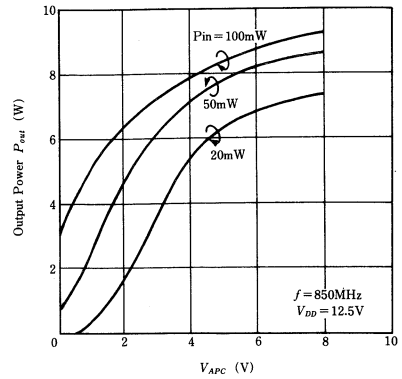

Fig. 4. In the case of only plus power supply (variable input power)
- ii) If you want to have only plus polarity power supply for APC, the APC should be applied to the buffer amp. as shown in dotted line of block diagrams in item 3-1. This means that output power of the amplifier can be zero watt as the input power of the amplifier becomes lower (in other words, making the output power of the buffer stage lower) as shown in Fig. 4.